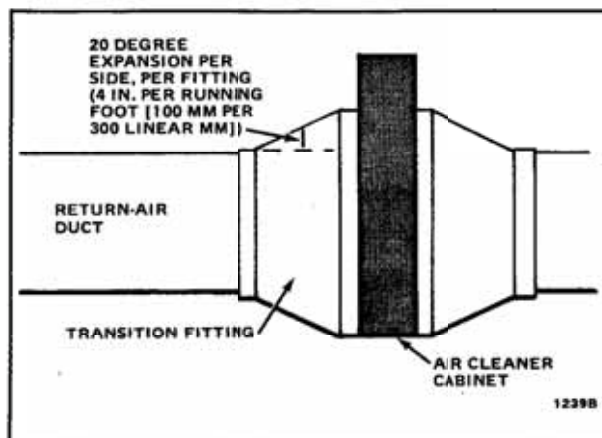

FIG. 11—WHEN NECESSARY, USE GRADUAL TRANSITIONS IN DUCT SIZE TO PREVENT EXCESSIVE TURBULENCE.
1. Gradual transitions are recommended to reduce air turbulence through cleaner and to increase efficiency (Fig. 11).